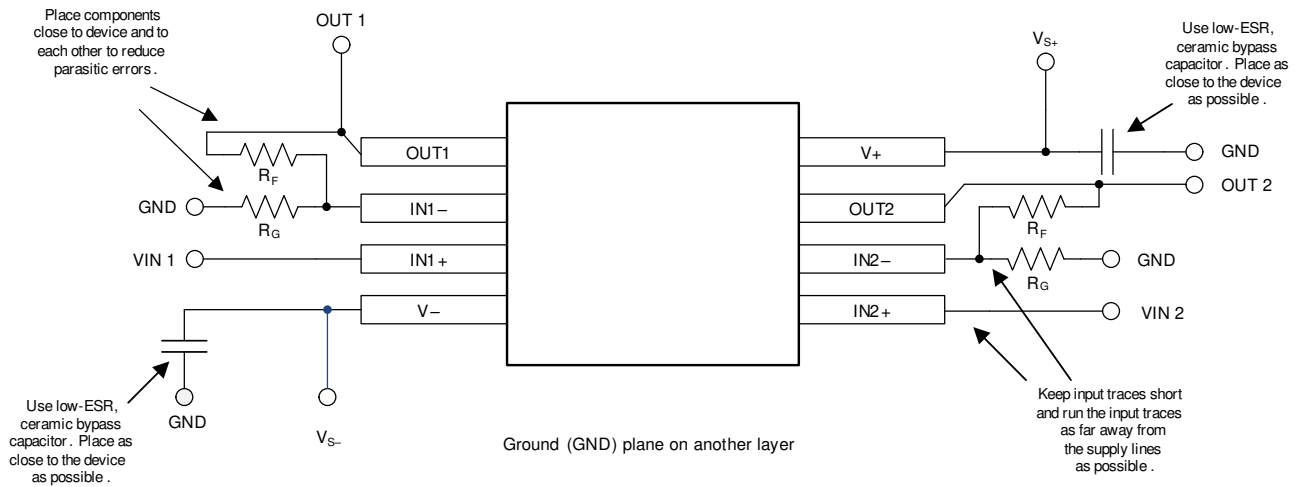

Figure 42. Layout Example
- Place the external components as close to the device as possible. As illustrated in Figure 42, keeping  $R_F$  and  $R_G$  close to the inverting input minimizes parasitic capacitance on the inverting input.